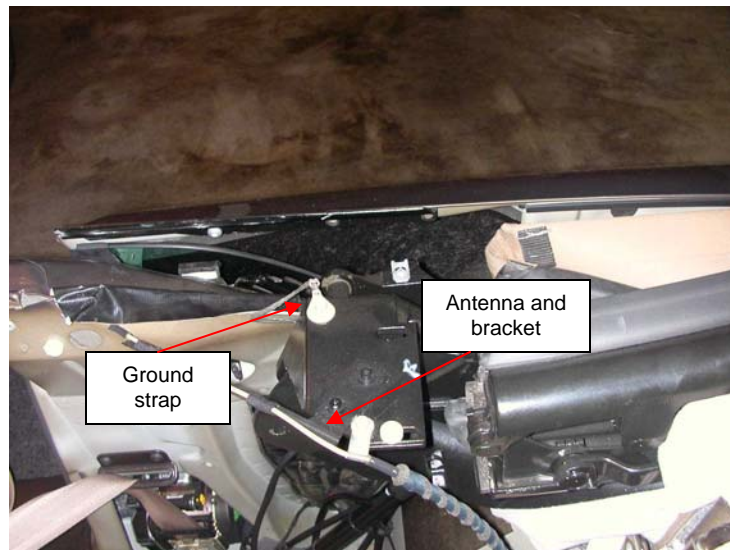

Fig. 16 Alarm antenna, support bracket and ground strap
12. Remove the alarm antenna and bracket (Sec. 76.86.15, Steps 12 and 13) (see Fig. 16). While not strictly necessary, these both appear to be fragile items that are best moved out of the way. I also removed the ground strap as well.